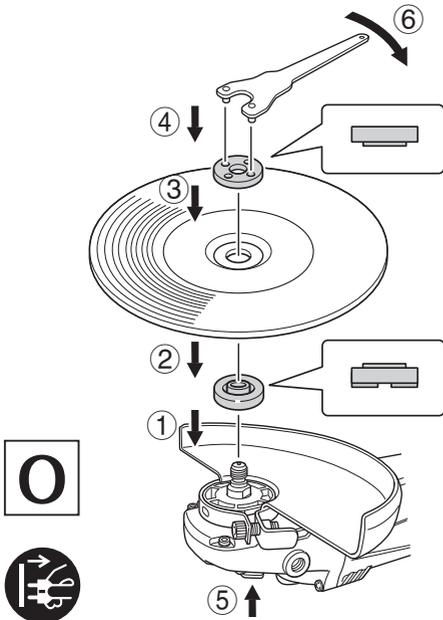

Fig. 3
3. Assembling depressed center wheel (Fig. 3)